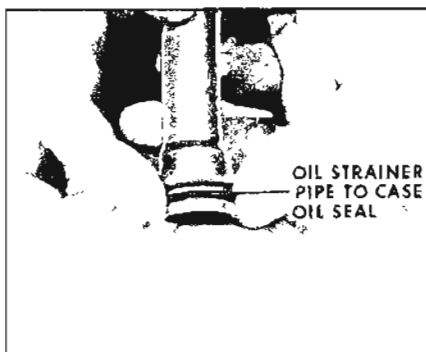

Figure 5-107
4. Examine oil strainer to case oil seal. If nicked, torn or worn, remove seal. See Figure 5-107.